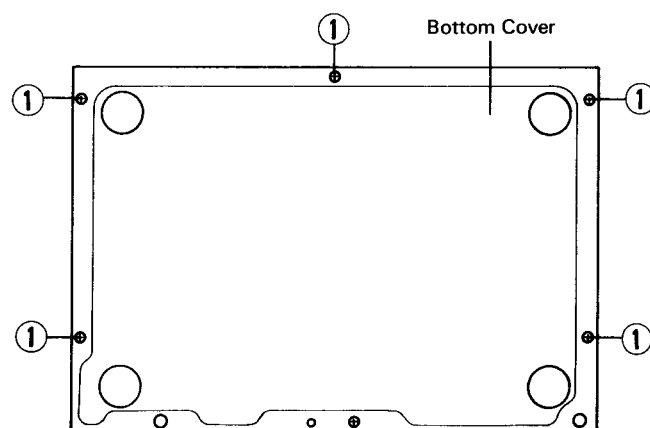

Fig. 6-1
Remove six screws ① ① retaining the top and bottom side of the bottom cover. (Fig. 6-1)